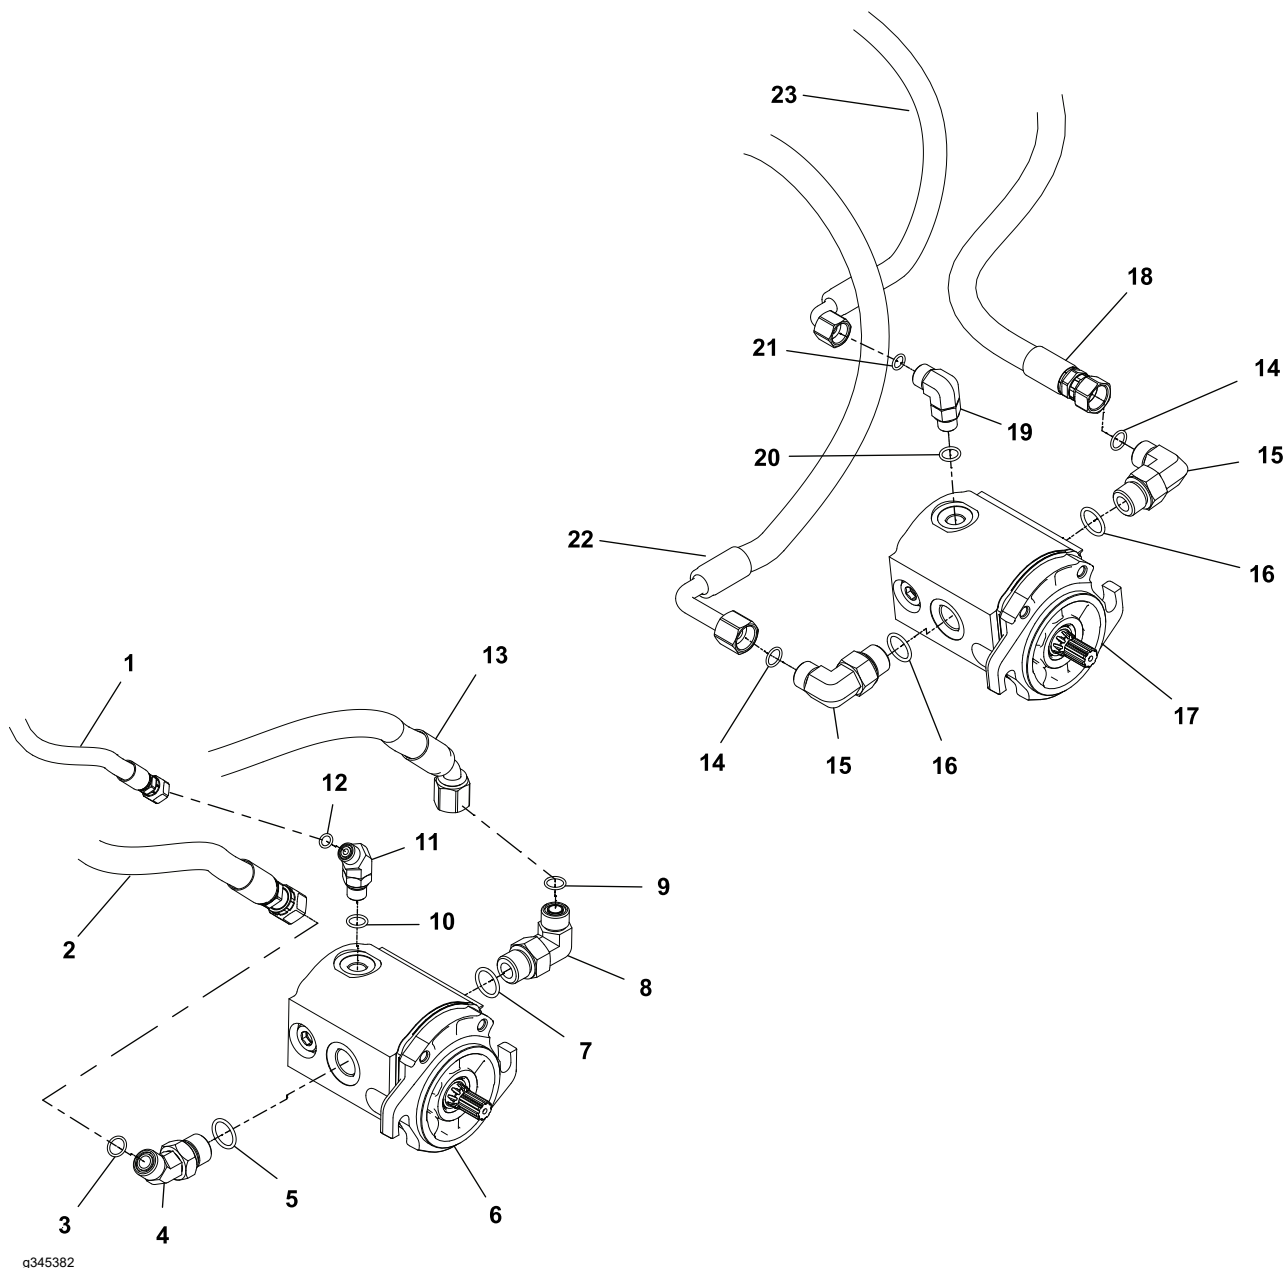

Figure 82
3. Label all hydraulic connections for assembly purposes (Figure 82). Thoroughly clean hydraulic connections prior to loosening hydraulic lines from reel motor to prevent hydraulic system contamination.
7. Lubricate and install new O-rings on motor fittings. Correctly connect hydraulic hoses to the motor using labels placed during removal procedure (Figure 82).